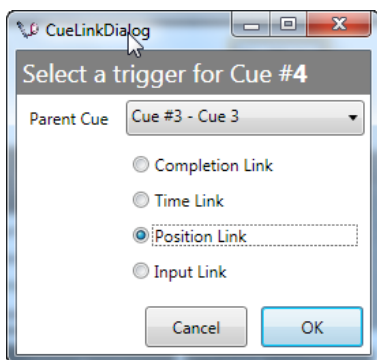

Figure 160
2. Select the **Parent Cue** from the drop-down list and select **Position Link**, then press **OK** (Figure 160).